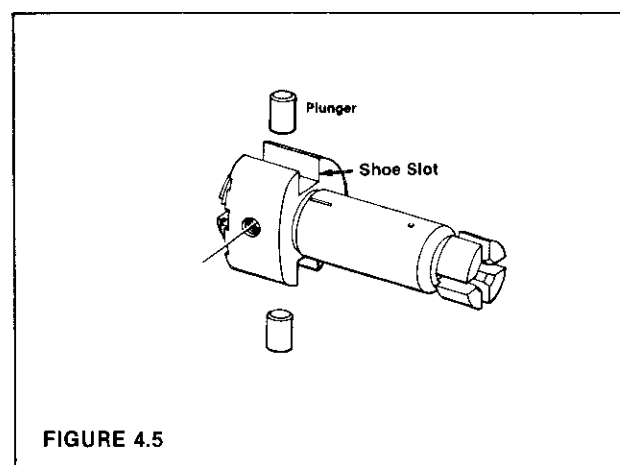

FIGURE 4.5
5. Plungers - While holding the rotor under clean oil, insert the plungers into their bore. With thumb and forefinger over the shoe slots, tilt from side to side several times to determine complete freedom of movement. Interchanging or reversing their initial positions may be necessary, as these are matched parts. If the plungers are sticking, but not visibly damaged, clean both plungers and bore with a soft brush and a solvent such as lacquer thinner or acetone (Do not force plungers into their bore and do not handle rotor shank.) (Figure 4.5).